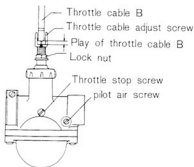

Fig. 2-3-2
- a. Remove all slack from the two throttle cables by adjusting the throttle cable adjusting screw. (See Fig. 2-3-2.)